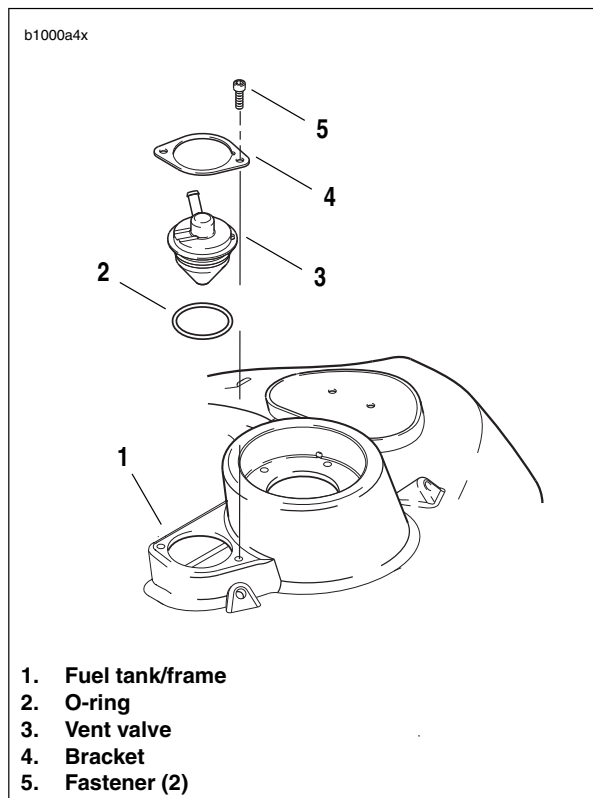

Figure 4-97. Fuel Tank Vent Valve
7. See Figure 4-97. Remove vent valve fasteners (5).
8. Remove bracket (4), vent valve (3) and o-ring (2) from fuel tank/frame (1).
1. See Figure 4-97. Install **new** vent valve o-ring (2).
2. Install vent valve (3) into fuel tank/frame. Vent valve nozzle should be at approximately the 7:00 position.
4. Loosely install vent valve fasteners (5).